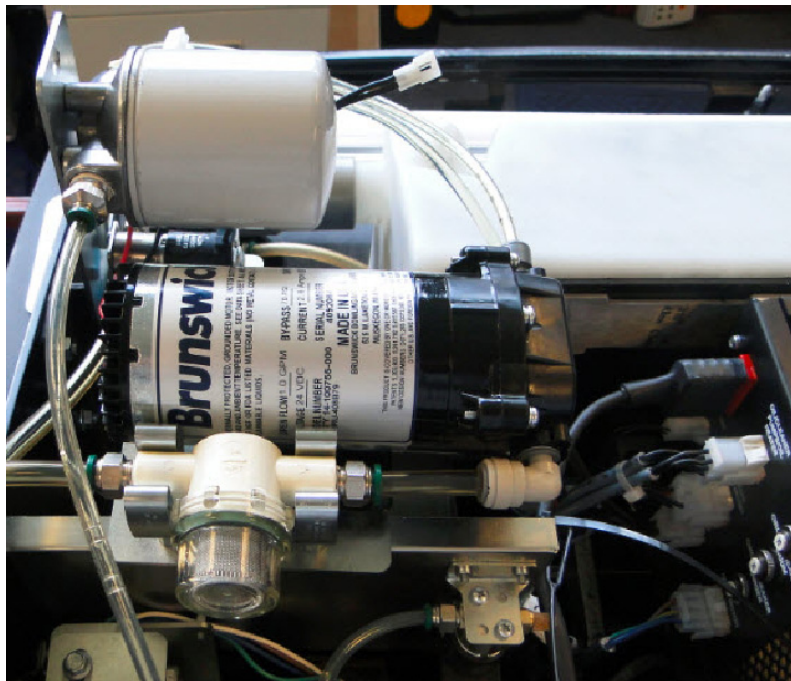

Figure 4
6. Lay the assembly across the dividing wall between the oil pan and center tub section. Refer to *Figure 4*.